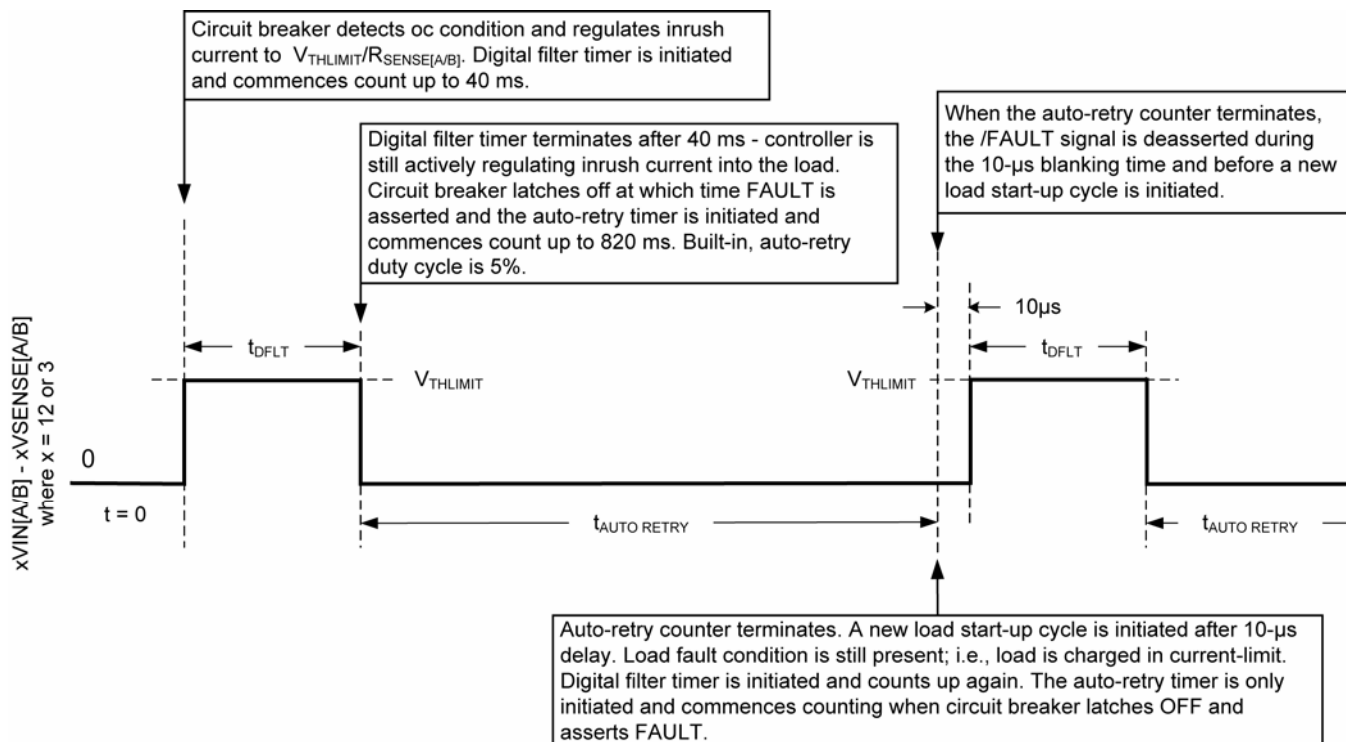

Figure 7. MIC2342R Auto-Retry Timing Diagram and Operation in Current-limit
In very cost-sensitive applications, the system design engineer can save the cost of the (2) external  $C_{FILTER[A/B]}$  capacitors by using only the digital filter and/or the Auto-retry delay counters. This mode is automatically invoked by connecting the MIC2342 or the MIC2342R's  $C_{FILTER[A/B]}$  pins directly to AGND. In this configuration, the primary OC detectors' response time  $t_{FLT}$  is equal to  $t_{DFLT}$  (or 40ms as above) In Figure 7,